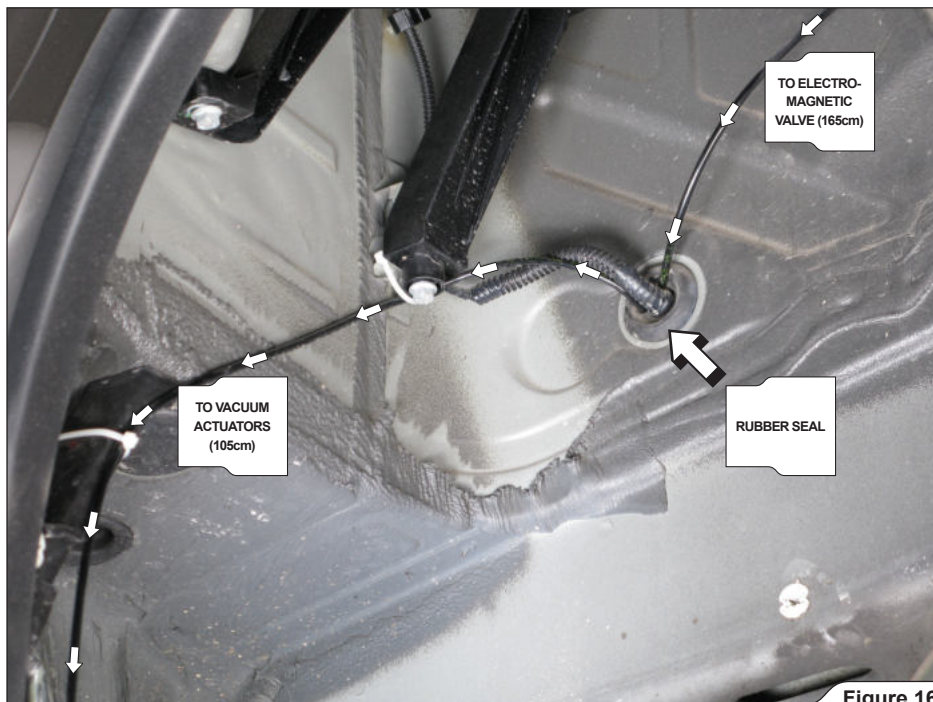

Figure 16
12. Penetrate the Akrapovič 105cm PVC vacuum hose through the rubber seal into the trunk. Direct and secure the PVC vacuum hose, as shown (Figure 16).